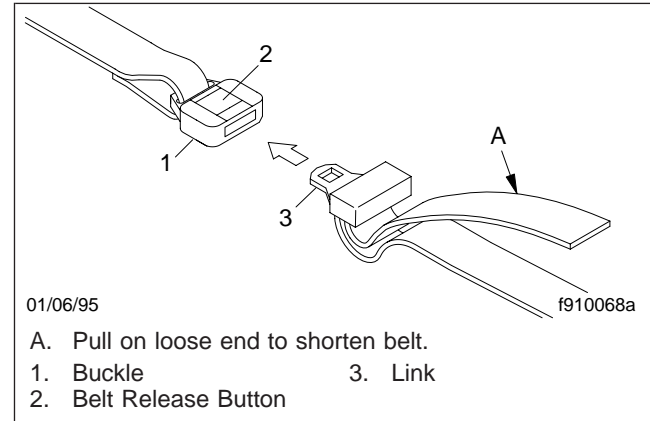

Fig. 2.12, Lap Belt Adjustment
1. Slowly pull the link end of the lap belt across your lap. See **Fig. 2.12**. If it is necessary to lengthen the belt, tip the link end downward and pull the link until it connects with the buckle.